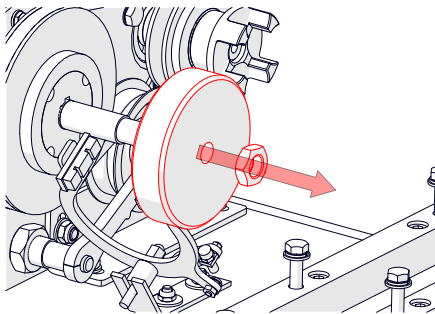

Fig. 17G - Replace drive belt.
8. Remove the belts and replace (if required) (Fig.17G).